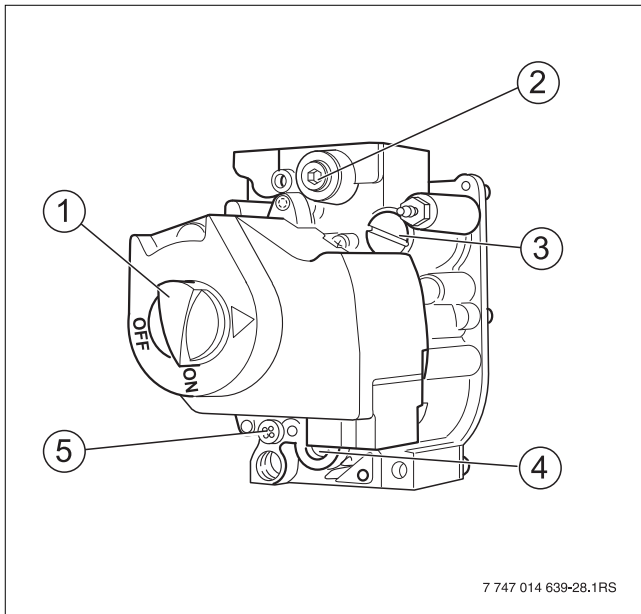

Fig. 11 Gas valve
- ▶ Never use force to operate the ON/OFF knob (→ Fig. 11, [1], page 10).
- ▶ Remove the safety screw for orifice pressure setting (→ Fig. 11, [3], page 10) from the gas valve.
- ▶ Screw the safety screw for orifice pressure setting (→ Fig. 11, [3], page 10) back into the gas valve.
The adjustment screw for the pilot orifice pressure setting is located behind the safety screw for the pilot orifice pressure setting (Fig. 11, [5], page 10).
- ▶ Remove the safety screw for pilot orifice pressure setting (Fig. 11, [5], page 10).
- ▶ After adjustment, tighten the safety screw for the pilot orifice pressure setting (Fig. 11, [5], page 10) again.
- ▶ Turn the gas valve ON/OFF knob (Fig. 11, [1], page 10) clockwise to the OFF position.